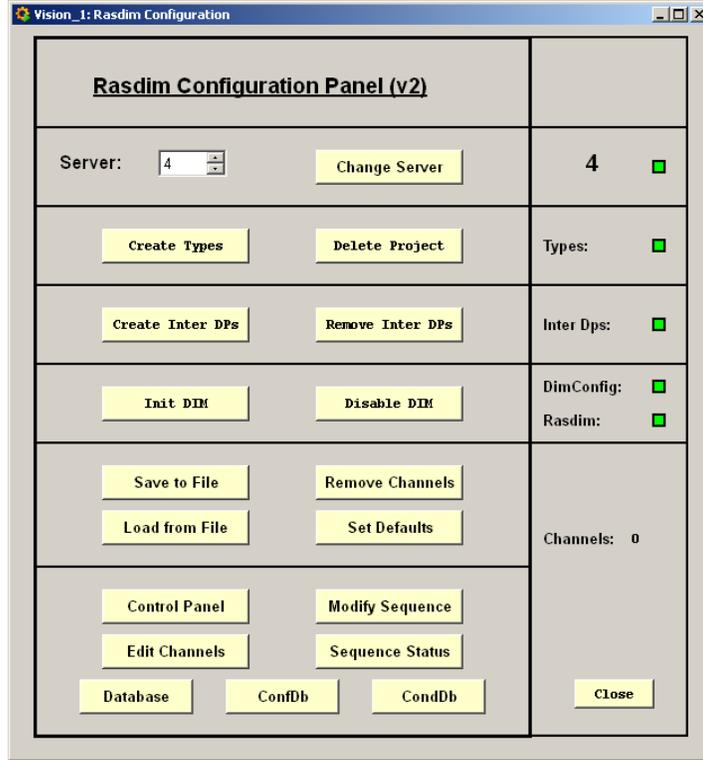

Figure 2.16: Configuration panel (2)
15. The PVSS-Rasdim project is now initialized. The datapoint types are defined, the internal communication datapoints are created and the connection to DIM is established. All status indicators should be green, and the buttons of the lower part enabled, as shown in Figure 2.16.